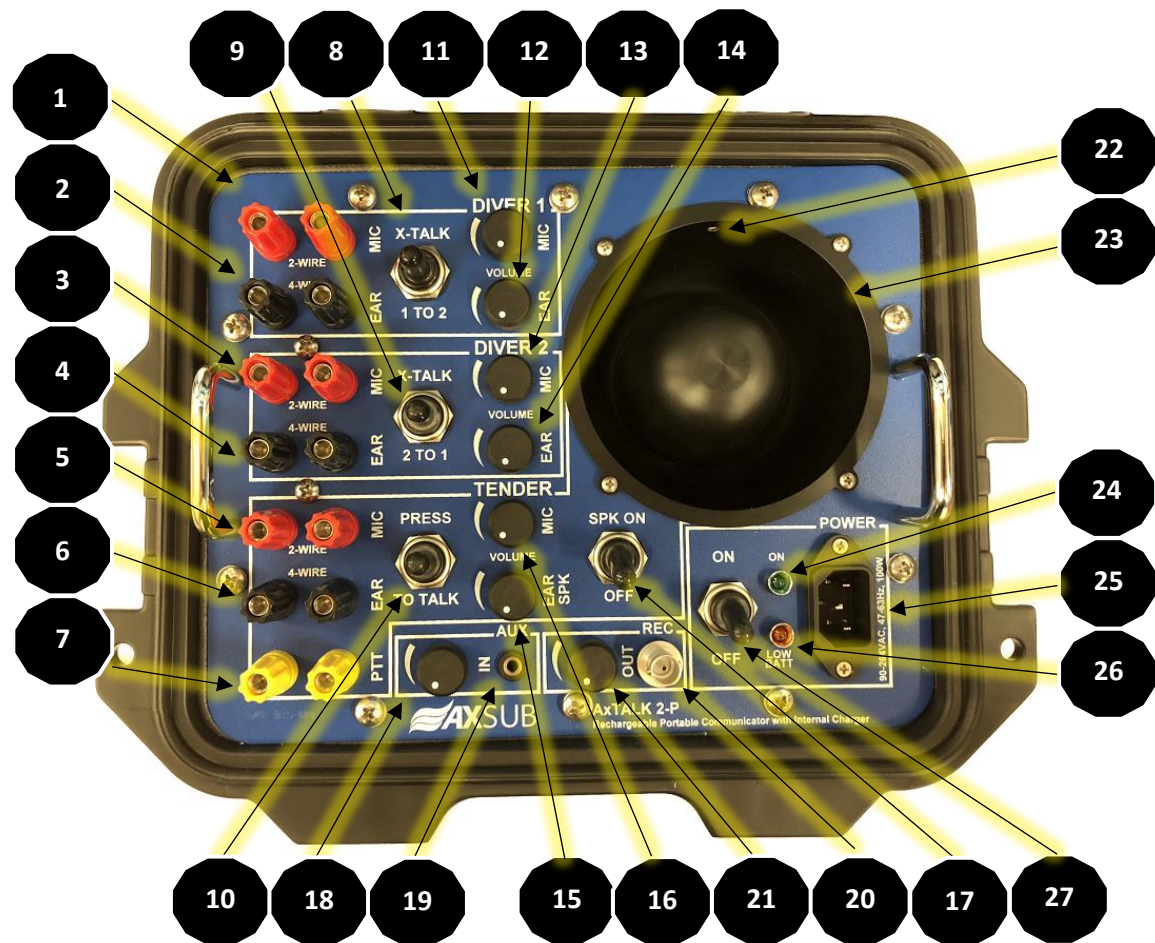

FIGURE 1 – AxTALK 2-P PANEL DESCRIPTION
See Figure 1 for a panel description.
A four-wire cable is required for all stations. Two of the wires are used for the microphone and two for the headset(s) and earphone(s). The diver earphones should be connected to the BLACK "EARPHONE" binding post on the surface unit for both divers (Fig 1 #2 and #4). The banana plug on the tender's headset should be connected to the BLACK "EARPHONE" banana plug (Fig 1 #6). The tender's microphone should be connected to the RED banana plug labeled "MICROPHONE" (Tender's section). The diver's microphone should be connected to the "MICROPHONE" RED banana plug in the Diver's section of the AxTALK 2-P. When in the four-wire mode, everyone is online together. It is similar to a telephone conference call.
If the Tender prefer use the Push-to-talk switch on the AxTALK 2-P (Fig 1 #10) when need to talk to the divers, he must connect his microphone AND headphone to the BLACK binding posts only (Fig 1 #6). If the Tender prefer use the Push-to-talk switch on the external microphone (hand microphone or headset with integrated PPT button), then he must connect his microphone on the YELLOW banana plug labeled "PPT" (Tender's section). AND headphone to the BLACK binding posts (Fig 1 #7).
- 2) When in the four-wire mode, you must use a headset with a boom microphone, and the Diver Select switch must be in the "BOTH" position. If feedback is present, switch off the front panel speaker (Fig. 1, #7).